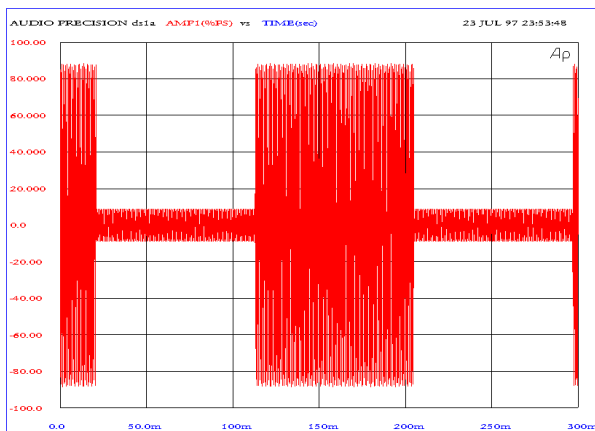

Fig. 1
**Fig. 1** Bypass, this is how the 50% dutycycle sinewave burst looks like. X-axis shows time in milliseconds, Y-axis shows linear level in percentage of full scale. Just like a scope.